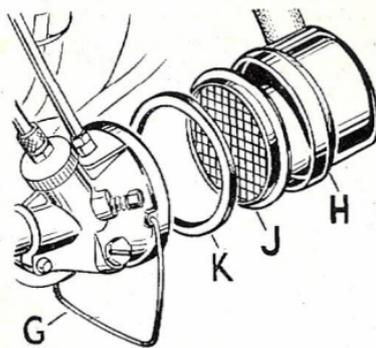

FIG. 12.
**The Air Filter:**—The carburetter air filter (Fig. 12) must be removed and thoroughly cleaned at intervals of not more than one month (or 300 miles), otherwise the air supply to the carburetter will be reduced, causing heavy fuel consumption and poor performance.